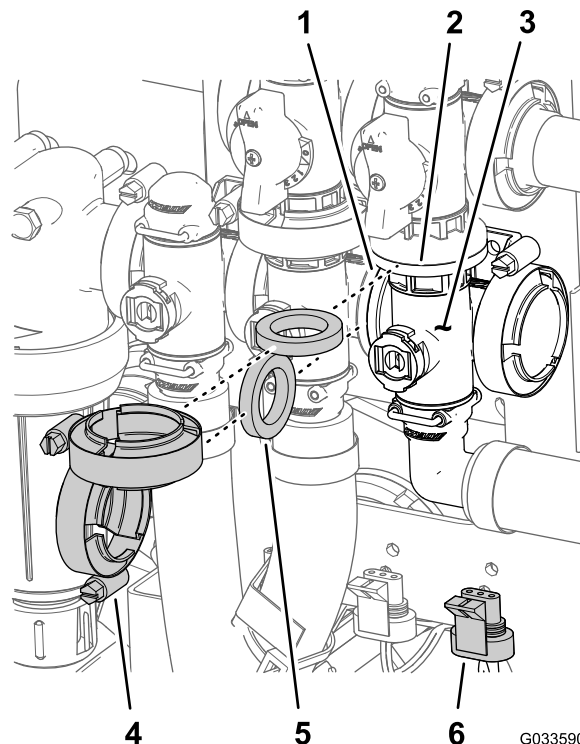

Figure 126
1. Align the flange of the master-boom-valve manifold, a gasket, and the flange of the master-boom bypass valve (Figure 126).
2. Assemble the master-boom valve manifold, gasket, and master-boom bypass valve with a flange clamp tightened hand tight (Figure 126).
3. Align the flange of the master-boom-valve manifold, a gasket, and the agitation-valve manifold (Figure 126).
4. Assemble the master-boom-valve manifold, gasket, and agitation-valve manifold with a flange clamp and tighten by hand (Figure 126)
7. Assemble the agitation valve to the valve mount with the flanged-head bolt and flanged locknut (Figure 126) that you removed in step 3 of Removing the Master Boom Manifold Valve \(page 79\) and torque the nut and bolt to 10 to 12 N·m (90 to 110 in-lb).